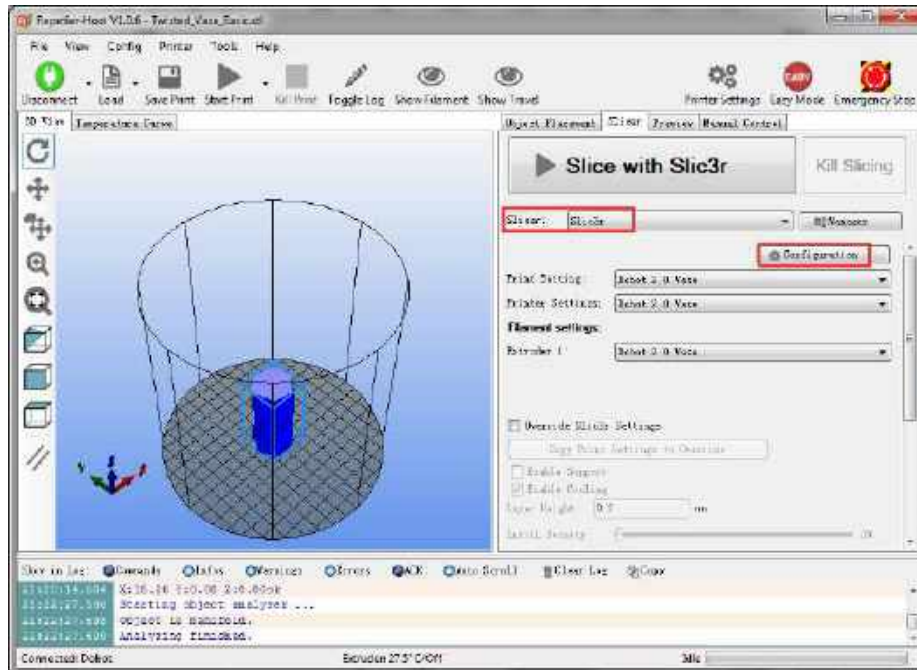

Figure 5.125 Select slicer
3. Select **Slic3r** from **Slicer** on the **Slicer** tab of the **Repetier Host** page, and click **Configuration**, as shown in Figure 5.125.